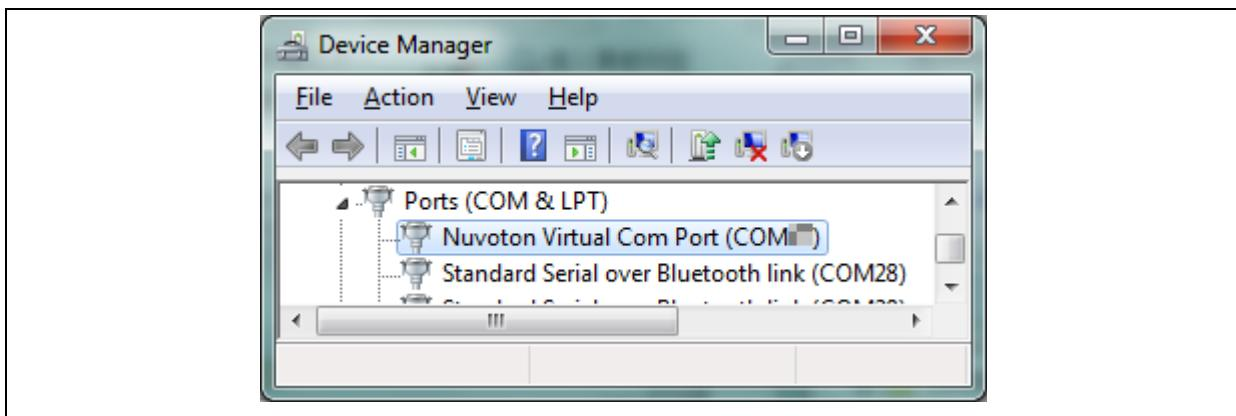

Figure 3-13 Device Manger
3. Find the “Nuvoton Virtual COM Port” on the Device Manger as Figure 3-13.